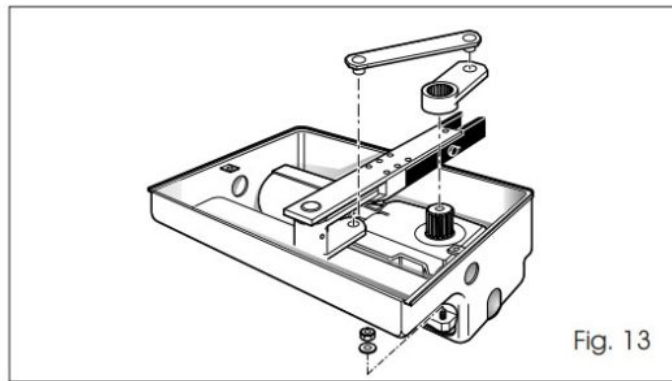

Fig. 13
2. Place the operator on the fastening bolts on the foundation box, and secure it using the supplied nuts and washers (Fig. 13).
3. Manually close the leaf and assemble the supplied driving levers, as shown in Fig. 13.